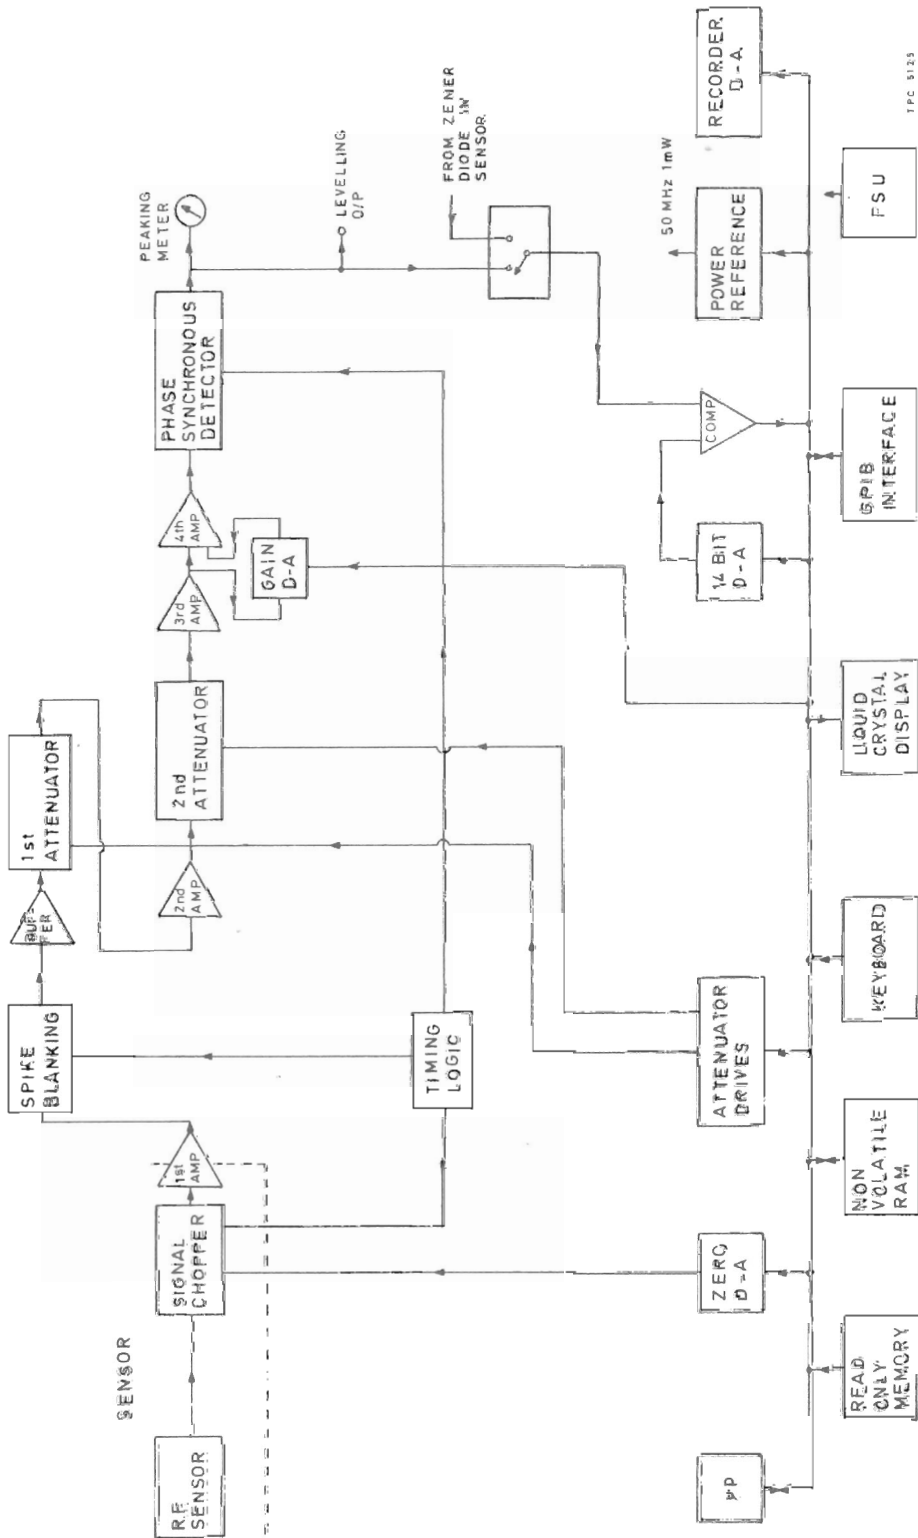

Fig. 1 RF Power Meter 6980 block diagram
1. Refer to the 6960 block diagram shown in Fig. 1. The r.f. sensor gives a low d.c. voltage when power is applied. This d.c. signal is converted to an a.c. signal by the signal chopper enabling high gain, low noise amplifiers to be used.